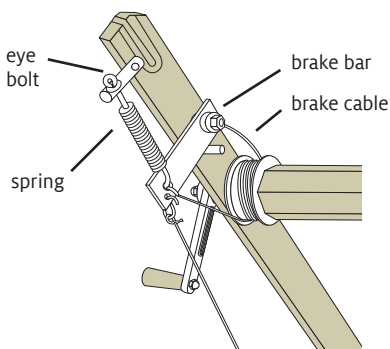

FIGURE 7: FRICTION BRAKE
20. The friction brake can be adjusted by tightening or loosening the eye bolt (Figure 7). This will increase or decrease the tension on the spring, which will in turn increase or decrease the tension on the brake bar and the brake cable.